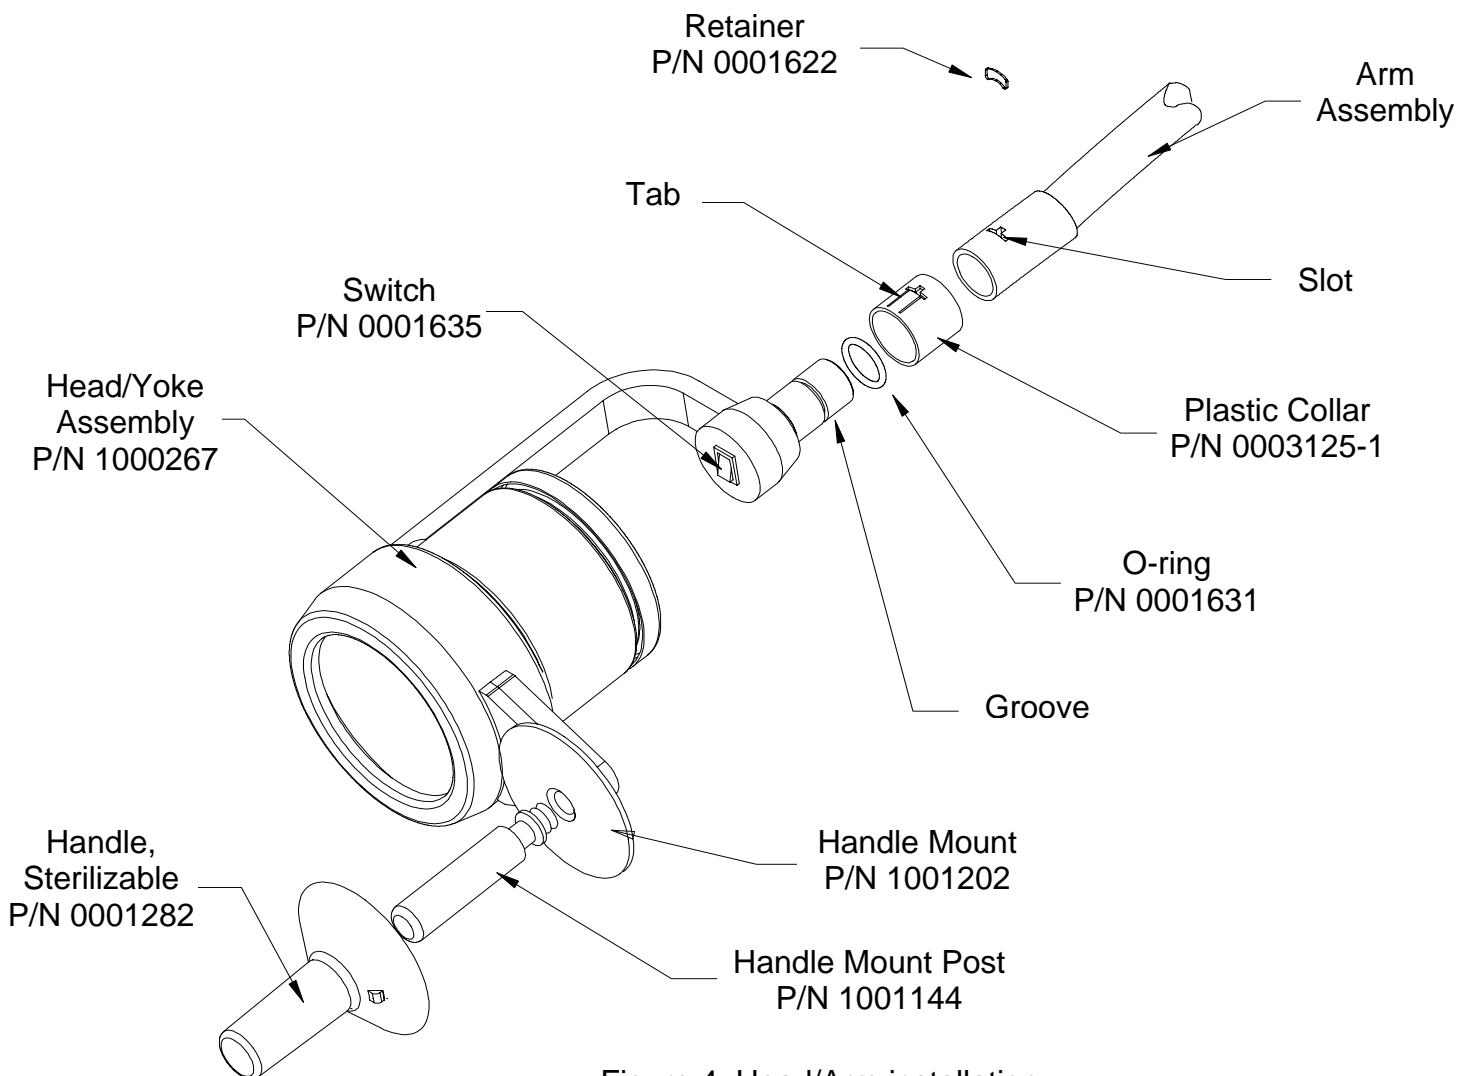

Figure 4: Head/Arm installation
- While lifting the tab on the plastic collar, rotate the plastic collar until the slot is visible (approximately 180 degrees). Slide off the plastic collar. (see figure 4)
- Install the handle post and sterilizable handle onto the handle base as shown in figure 4.